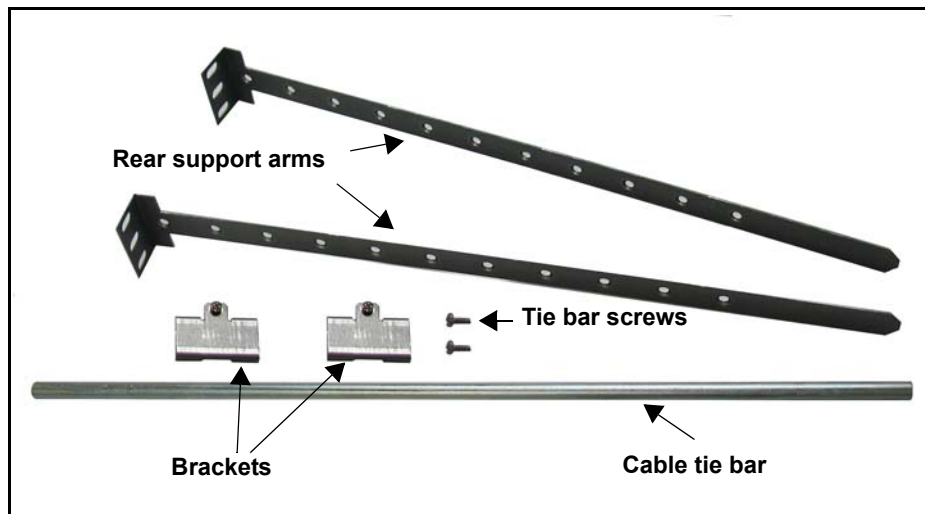

Figure 2-2 Rack Support Brackets
- 1 Locate the support package in the box, consisting of two support arms, two brackets with screws, a tie bar, and tie bar screws. (See Figure 2-2.)